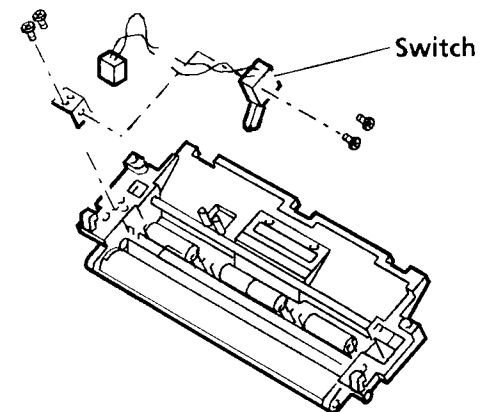

Figure 1. Scanner interlock
3. Remove two screws (Figure 1) retaining the scanner interlock bracket.
4. Cut cable tie and remove two screws (Figure 1) retaining the interlock to the bracket.